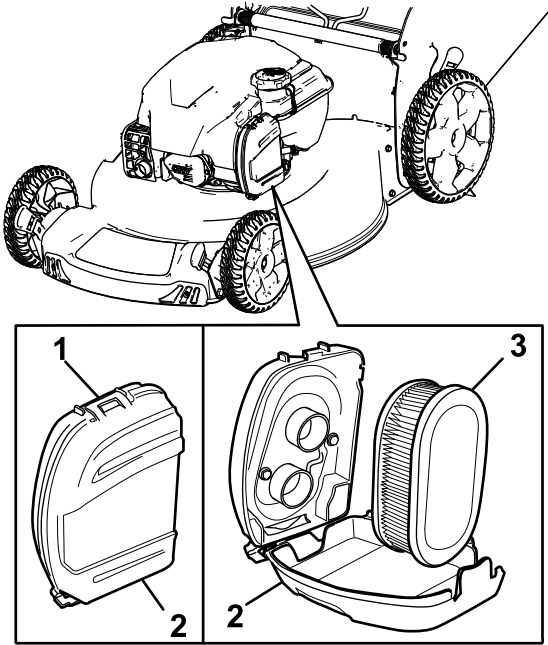

Figure 28
1. Unclip the top of the air-filter cover (Figure 28).
2. Remove the air filter (Figure 28).